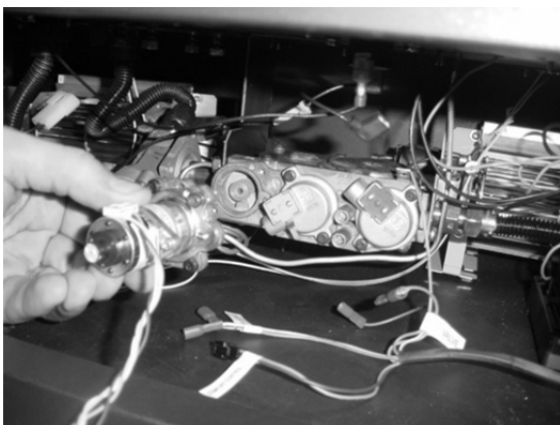

Figure 1
- (b) Remove and discard the Natural Gas (NG) orifice. Place the LP orifice in the pilot assembly then replace the pilot hood, tightening the pilot hood until it is snug (do not over-tighten).
1. Remove the control panel to access the gas control panel. The stepper motor (adjustable regulator) has an installation sheet included with it – make sure to follow all of the directions. Place the stepper motor on the gas control valve (see Figure 1) – **MAKE SURE IT IS CORRECTLY ORIENTED.** Secure using the screws included with the motor (see Figure 2) – tighten to 25 Lb-inches. Leak test this area after installation to verify proper installation.